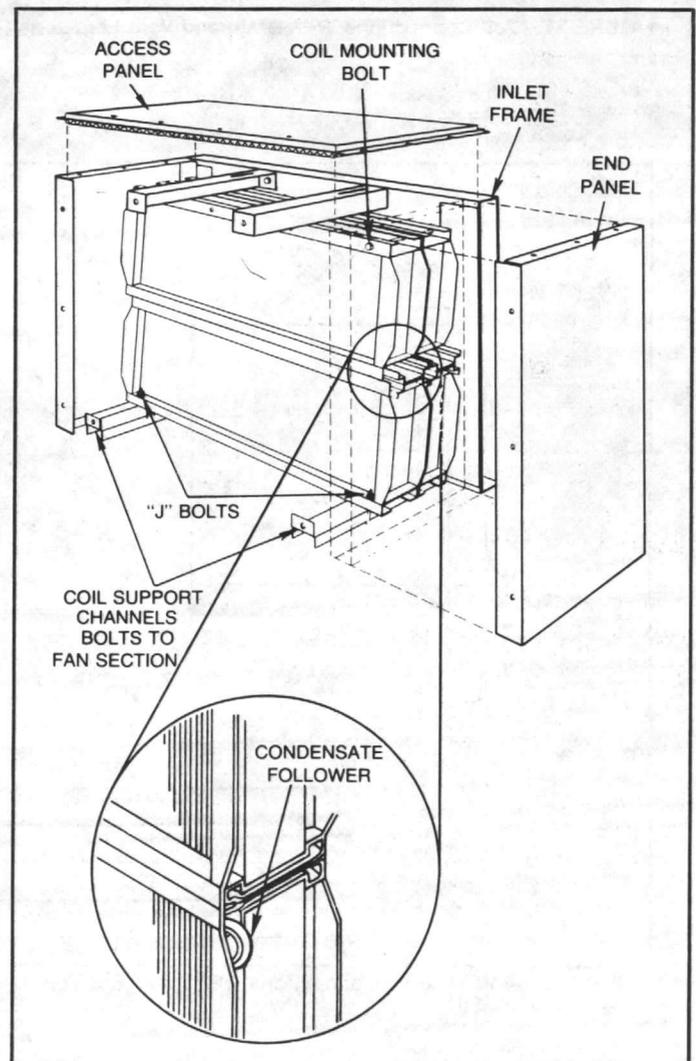

FIGURE 33B - Draw-Thru Unit Coil Section Details with View of Condensate Follower
**NOTE:** On units with stacked coils, there is a condensate follower located at each end of the coil connection. Figure 33B illustrates the condensate follower provided at the end of the stacked coils.